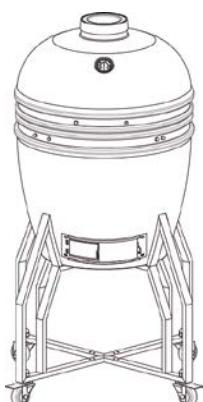

Figure 1
**STEP 3** Place assembled cart on a secure level surface with locking wheels facing forward before inserting the grill. Gently lift the grill and place it in the cart. Adjust the position so the front of the grill is centered between the legs with the two locking casters. The bottom vent should be easily accessible for use. (See Figure 1)